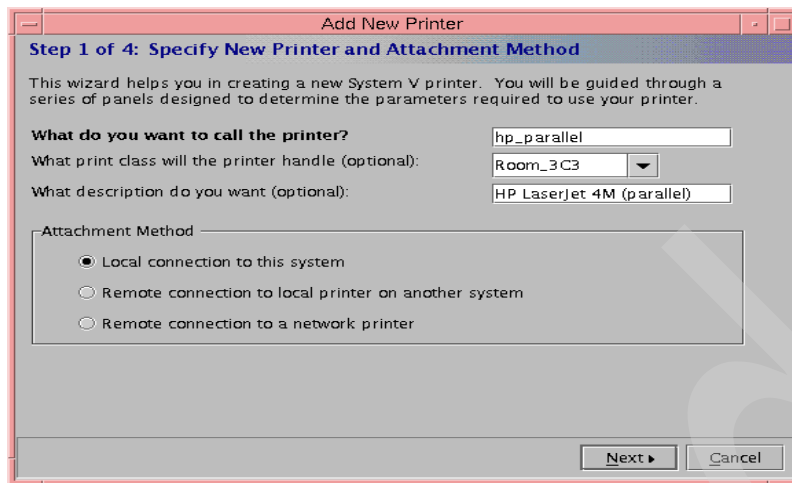

Figure 7. Adding a locally-attached printer (step 1 of 4)
- a. Select a name for your System V printer. See Figure 7 on page 67 for more details.